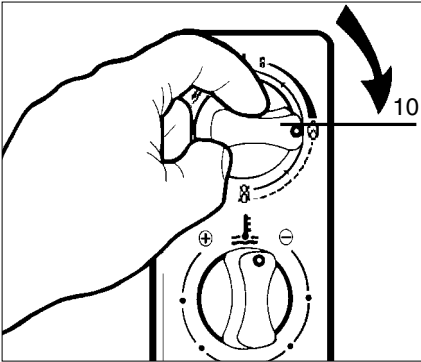

Fig. 2
- 3) When the pilot is alight, wait 10 seconds then turn the gas control knob slowly to the full gas position « ⏻ » (fig. 2).
Light the pilot as previously described and turn the gas control knob to the position shown in fig. 2. Turn on a hot water tap.